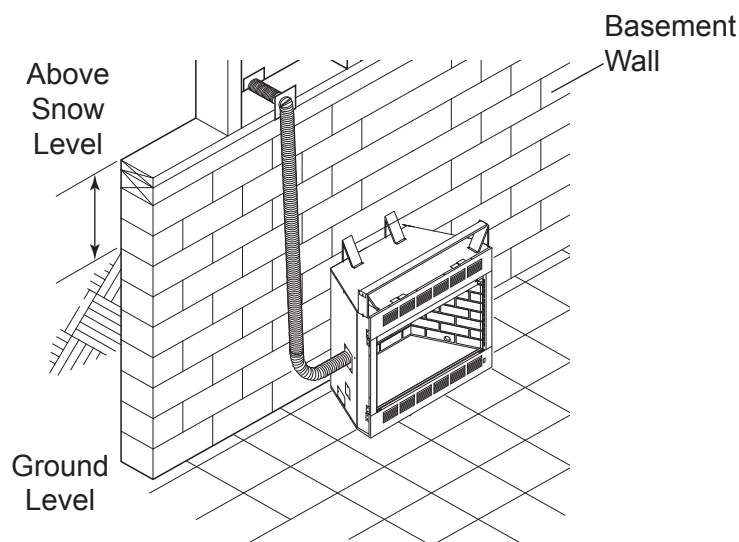

Figure 14 - Basement Installation
A canopy is furnished with each firebox and **MUST** be installed for safe operation. See *Figure 14*.
6. Avoid extremely long runs and numerous turns in the duct leading from the fireplace to the combustion air assembly. See *Figures 14 through 17* for methods of installing the outside air for combustion assemblies.